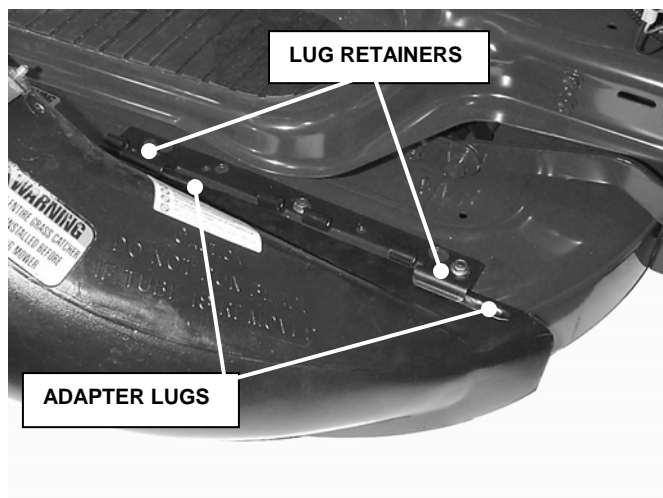

FIGURE 1.13
- C. Hold the Adapter in front of the deck. Align the Adapter Lugs with the Lug Retainers in the Hinge. Push or lightly tap front of Adapter towards the rear until tight against deck. See Figure 1.13.